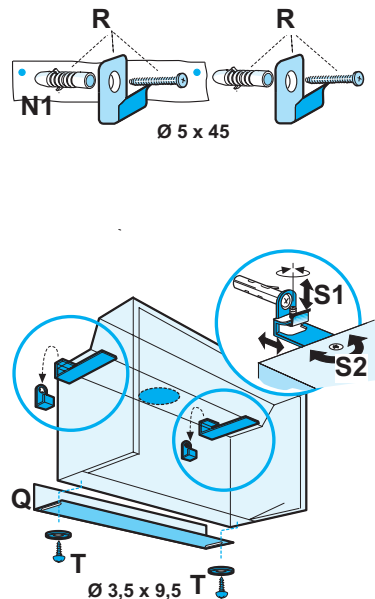

Fig. 12
Fix 2 hooks **R** to the wall with screws and dowels. **Fig. 12**
- c. Hang the hood onto the hooks and adjust the position of the hood with headless screws **S1** and adjusting the position of the hooking brackets with screws **S2**. **Fig. 12**